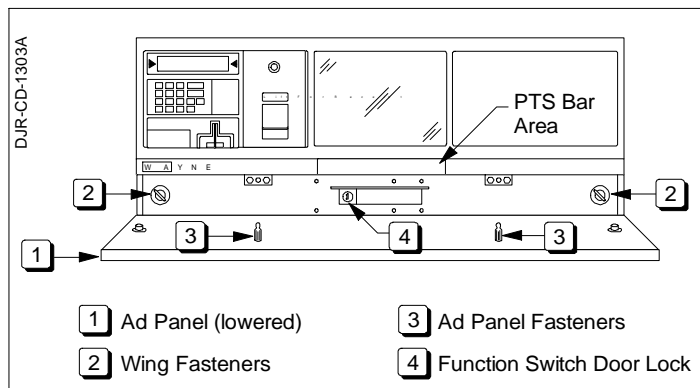

Figure 2-2 Wing Fasteners on Bezel
- Turn the wing fasteners on the left and right side of bezel counter clockwise. Refer to Figure 2-2.